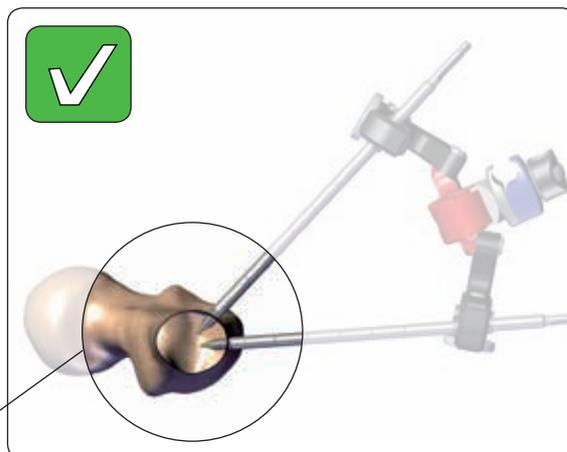

Fig. 8a
**WARNING:** Stability of the clamp relies on correct spacing between the screws at the bone surface. To guarantee the system's stability, screws must be accurately inserted aiming at the center of the bone (Fig. 8a-b).